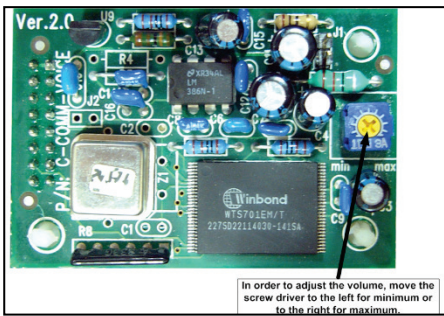

Figure 14: Volume Trimmer
4. Turn volume trimmer on voice card until required volume is reached (Figure 14) (Refer to Figure 1, page 11 to see the voice card location).